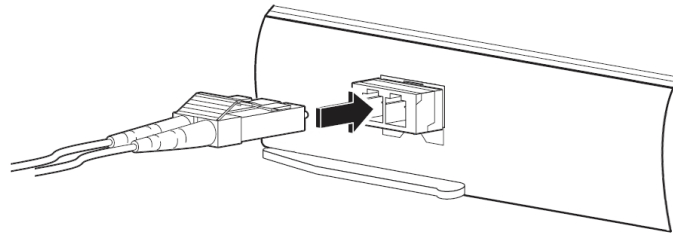

Figure 9 : Connecting the cable to SFP+ Module
3. Insert the fiber cable into the module, as shown in Figure 9.